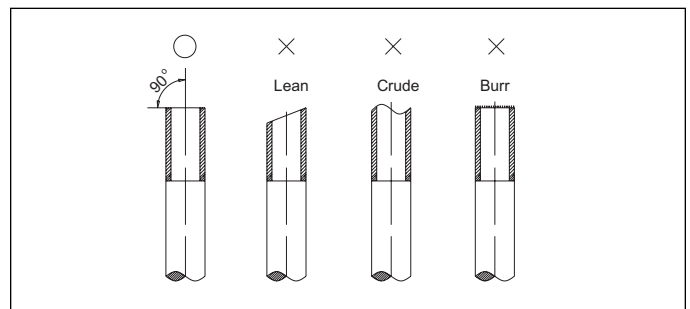

Figure 18. Cutting Pipe
4. Cut the selected pipes with a pipe cutter. Make the cuts flat and smooth as illustrated in "Figure 18.